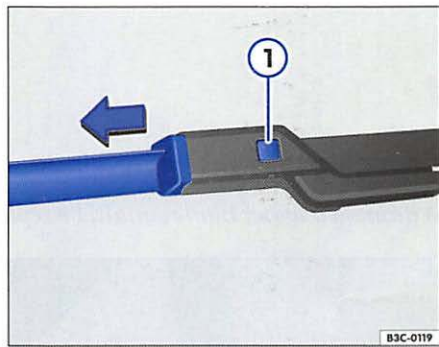

Fig. 12 Illustration of principle: Changing front wiper blade
- Hold the release button down ⇒ fig. 12 ① and at the same time pull the wiper blade in the direction of the arrow.